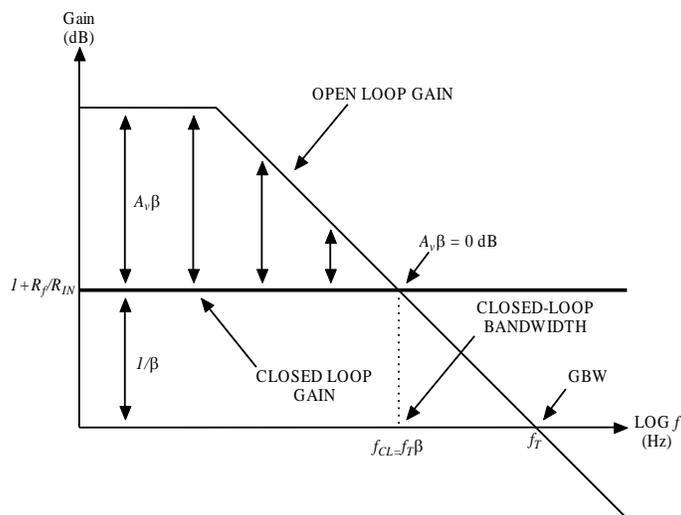

Figure 1: Op Amp Open Loop Gain and Closed-Loop (Noise) Gain
given by  $A_v\beta = 1 \angle \pm 180^\circ$ , and there is an inverse relationship between the phase margin and the amplitude of the overshoot (and corresponding ringing) in the step response of an amplifier. Figure 1 graphically summarizes these terms.
What Figures 1 and 2 neglect to show is that all Op Amps have additional poles in  $A_v$ . For a fully compensated ( $A_{CL} = 1$  stable) Op Amp, the second pole is located at or slightly above  $f_T$ . So in practice, we are starting with at least  $-90^\circ$ , and more likely  $-110^\circ$  to  $-135^\circ$  of phase shift, so there is not a lot of margin left in  $\beta$  before the step-response of the amplifier is unusable. In general, selecting  $R_f$  and  $R_{IN}$  for high gain works in our favor. High gain shifts  $f_{CL}$  lower in frequency and the Op Amp's second pole has less influence where  $|A_v\beta| = 0$  dB (unity loop gain). But Equation (5) shows that if large values are selected for both  $R_f$  and  $R_{IN}$ , the zero will be located at lower frequencies, and the phase margin will be degraded.